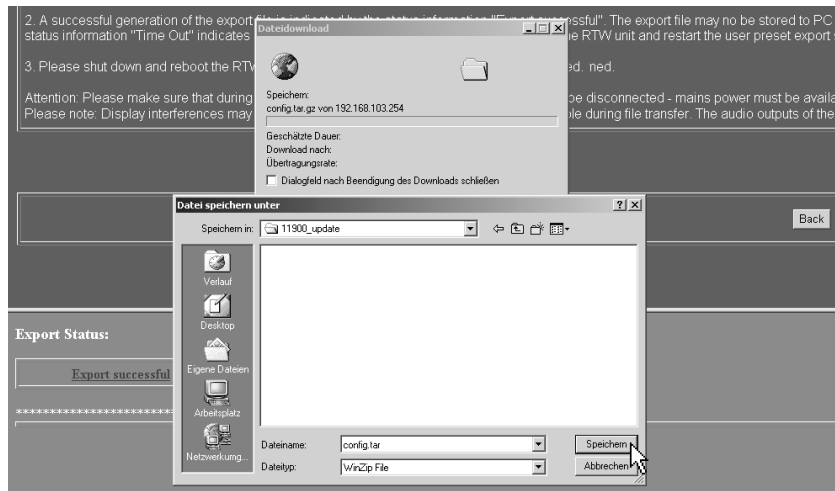

Fig. 8-15: Choose the folder for saving the export file
- The save file as ("Datei speichern unter") dialog box is shown. Choose the folder (e. g. C:\11900\_Update) for saving the export file config.tar.gz (see Fig. 8-15).